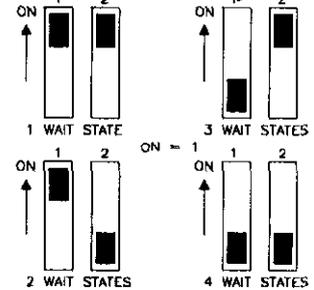

Figure 2-6. I/O Wait State Selections
The KM-488-ROM design includes a switch-selectable wait-state generator. A selectable Wait State insures optimum performance and reliable operation at the differing bus clocks found in PCs. The default number of Wait States (1) should be correct for most PCs. However, if your data is garbled or your program crashes, you may need to adjust the number of Wait States. Some general guidelines are presented in Table 2-2. Select the number of Wait States by setting Positions 1 and 2 (marked Wait State) on the DIP switch. You may program the KM-488-ROM to generate one, two, three, or four Wait States during I/O. Note that the number of memory Wait States is automatically set to a value which is one less than the I/O Wait States. To select a number other than the default, set the switches to one of the positions shown in Figure 2-6.